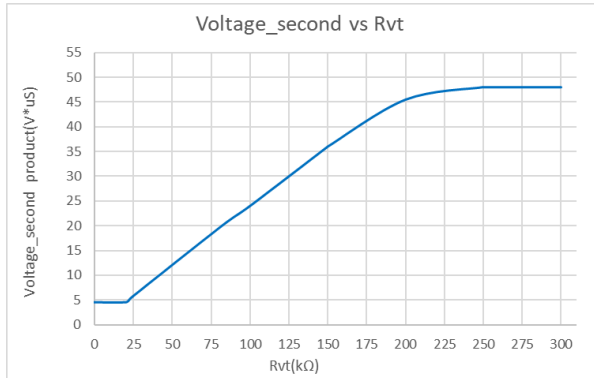

Fig. 2 Volt-second value vs. VT resistance
2) Volt-second of SW: in DCM and QR operation, there are parasitic oscillations. In some applications, the drain resonant voltage may fall below the SR turn on threshold, especially for the first couple rings. SR could be falsely turned on, which may cause shoot through issue and result in high power loss. The volt-second value of SW pin can be used to distinguish the parasitic ring from normal primary side switch on. The threshold can be set by the resistance at VT pin. The curve is shown in Fig. 2.